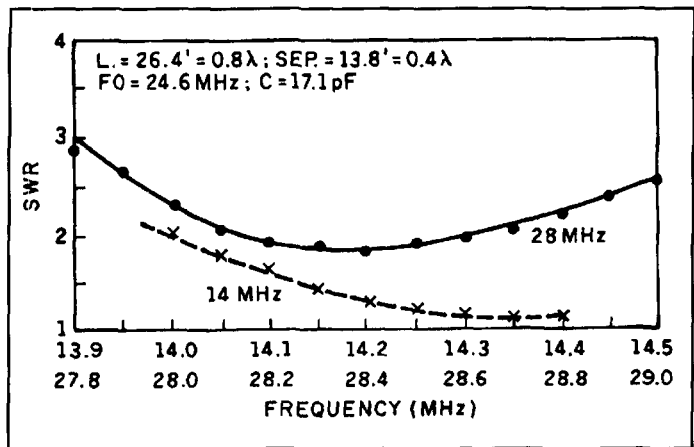

Figure 3. SWR as a function of frequency for antenna C (see Table 1).
**Antenna C.** See Figure 3 for a plot of SWR versus frequency. The total length is longer than B, but less than that of a “trap” antenna. The inductors have 15 turns of no. 18 enamel wire close wound on a 3/4-inch form (2.36 μH).